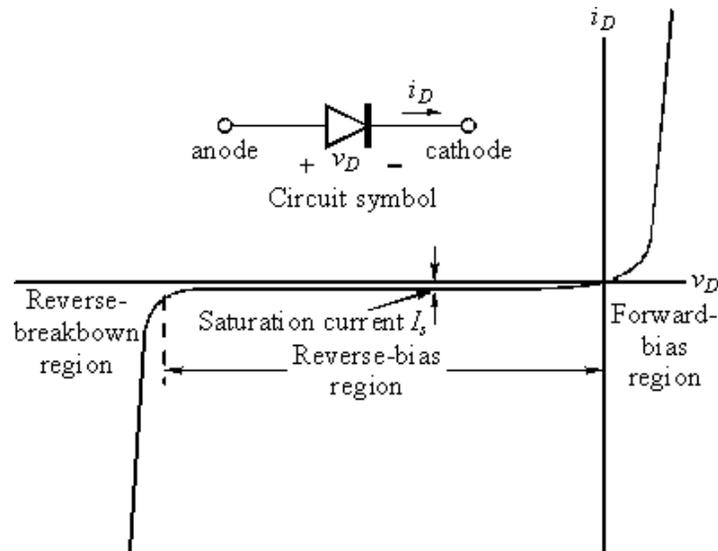

Figure A-3.
*I-V curve of a diode:* Figure A-3 shows typical characteristics of a real diode.